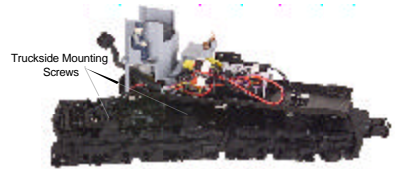

Figure 8. Truckside Mounting Screws to Access the Traction Tires
First, remove the truck sides from the truck block. To do this, turn your engine upside down. If there are visible Phillips screw heads between the truck frame and truck block (see Fig.8), go to step A. If not, go to step B.
B. Remove the trucks from the chassis and the truck sides from the trucks in order to slip the new tire over the grooved drive wheel. See Fig. 8 for which screws you must remove to do this.